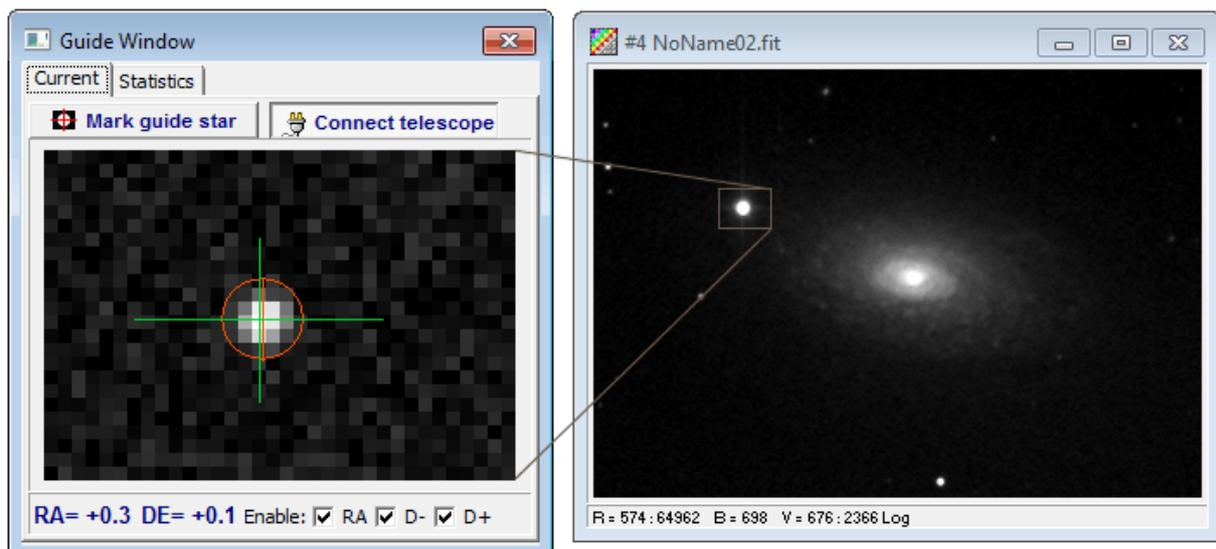

Fig. 8 - The Guide Window
Autoguiding means to use a CCD camera (or a WEBCAM) to guide the telescope for another instrument. Astroart measures the position of a reference star (the guide star) on the tracking CCD, and sends the appropriate commands to both the axes of the telescope mount to correct the guiding errors. As explained in fig.8 three scenarios are possible:
4. After a while the guide star will appear in the *Guide Window* (see Fig. 8). Click on the **Mark guide star** button: a green cross will automatically mark the initial position of the guide star, while a big red cross will follow the star while its shifts from the original position. If you are going to guide manually you simply have to act on your telescope control pad to keep the green cross over the red one.